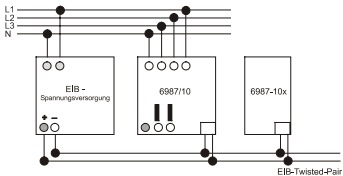
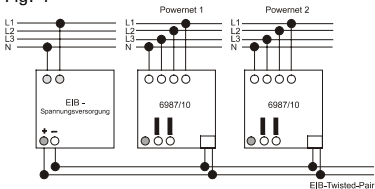

Fig. 1
Fig. 2
1. Bus power supply through a separate EIB power supply: see Fig. 1 (media coupler) or Fig. 2 (area coupler)